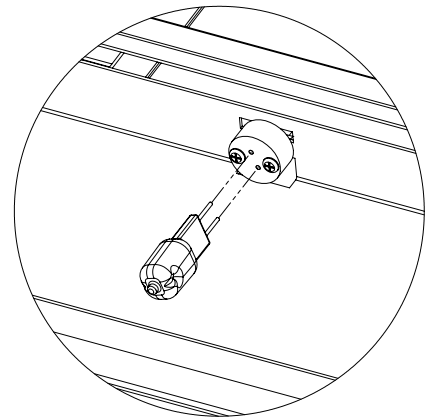

Figure 26. Remplacement de L'ampoule Halogène
6. Wear cotton gloves when replacing halogen bulbs. Grab bulb firmly at the base and pull straight out to remove; replace bulb as necessary. Grab new bulb by the styrofoam sleeve - it is vital that your bare fingers do not contact the bulb (see Figure 26). **The oils from your fingers will greatly reduce the life-span of the bulb.**